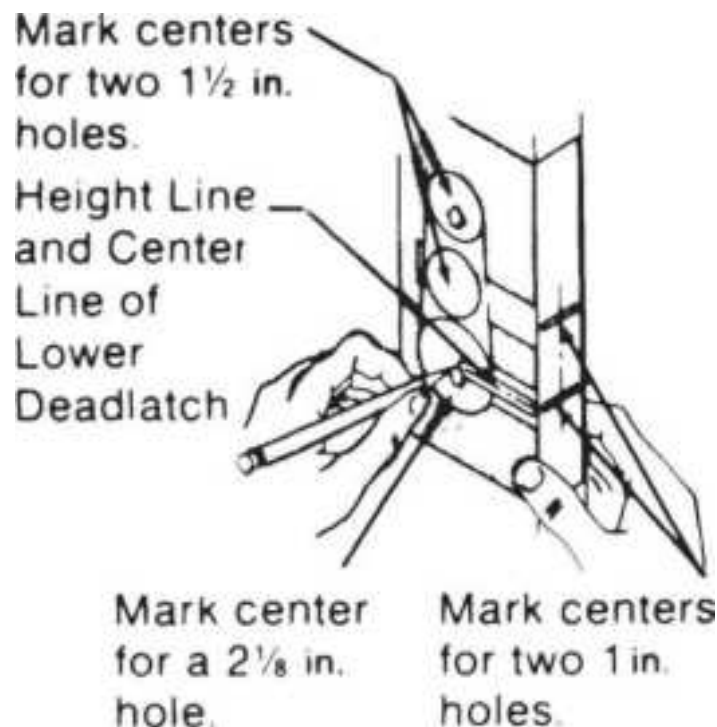

**Figure 13.57** Marking holes.
1. Mark the height line (the centerline of the deadlatch) on the door (Fig. 13.57). *Suggestion:* Mark the line 38 inches from the floor.
3. Position the template (supplied with the lockset) on the door with the lower deadlatch hole on the height line. Mark center points for one  $2\frac{1}{8}$ -inch hole and two  $1\frac{1}{2}$ -inch holes through the template (Fig. 13.57 ). Mark the centers for two 1-inch latch holes on the door edge.